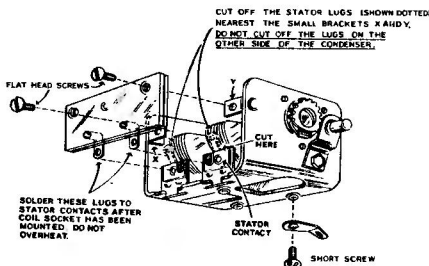

Fig. 4
- ( ) Study Figure 4 and cut off the two stator lugs indicated. These lugs (shown dotted) are nearest the small brackets which are riveted on the condenser frame.
- ( ) Mount the coil socket on the tuning condenser frame as shown in Figure 4. Use 6-32 flat head screws.
- ( ) Solder each coil socket lug to the nearby stator contact indicated in Figure 4.
- ( ) Mount a solder lug on the tuning condenser frame as shown in Figure 4. Use a short screw.